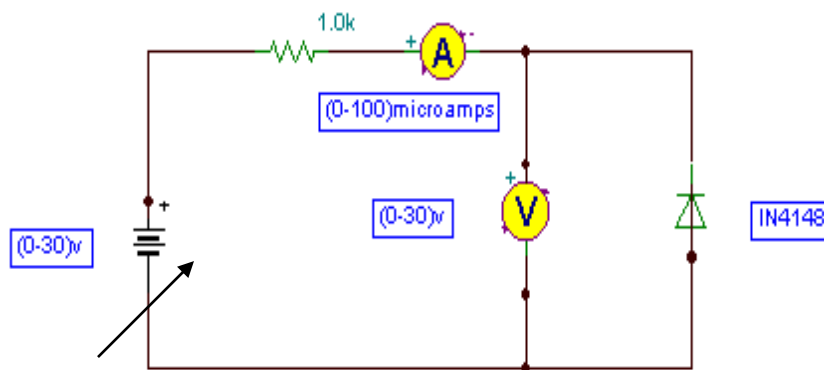

Figure. 2
4. We will get an elliptical trace as shown in fig 2
7. Repeat the above experiment with different resistance (R) values and compute the resulting phase difference by tabulating the readings in table 4.
1. Connect the circuit as per the circuit diagram shown in figure:2
4. Plot a graph taking the voltage (V) on X-axis and current (I) on Y-axis.